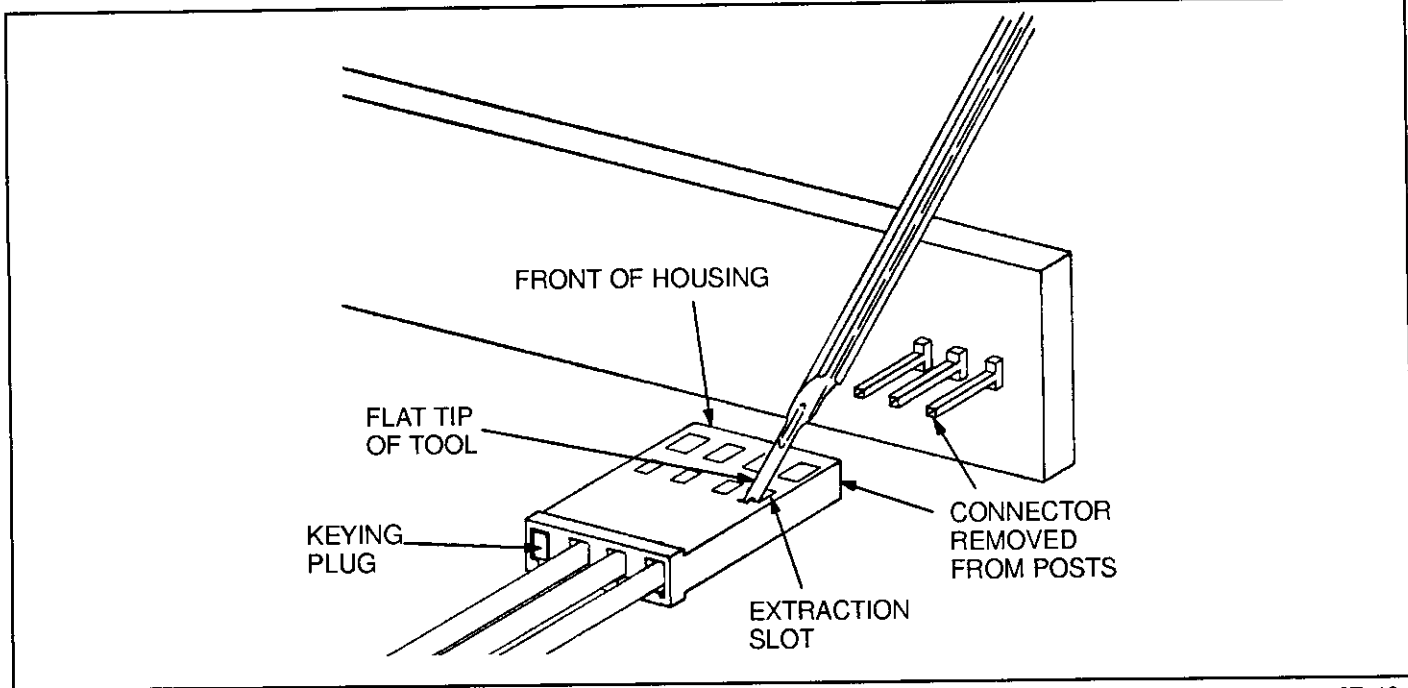

Fig. 1
A. Single Row Connectors (see Figure 1)